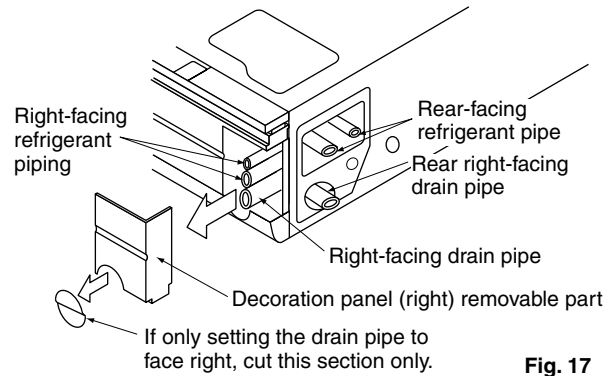
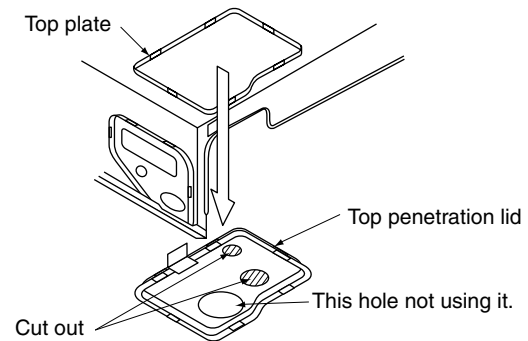

Fig. 17
Fig. 18 (A figure from an inside bottom)
(1) For rear-facing piping:
- Remove the rear metal plate for pipe. **(Refer to Fig. 17)**
(2) For piping facing up.
- Removing the top penetration lid and use the L-shaped branch pipe kit sold separately to set the pipe. **(Refer to Fig. 18, 19)**
(3) For piping facing right.
- Cut out a slit hole on the decoration panel (right) and set the pipe. **(Refer to Fig. 17)**
- When piping is complete, use sissors to cut the removed penetration lid into the shape of the pipe and attach. As when removing the top penetration lid, secure the lead lines for the swing motor and thermistor by passing them through the clamp section on the top penetration lid. **(Refer to Fig. 18, 20)**